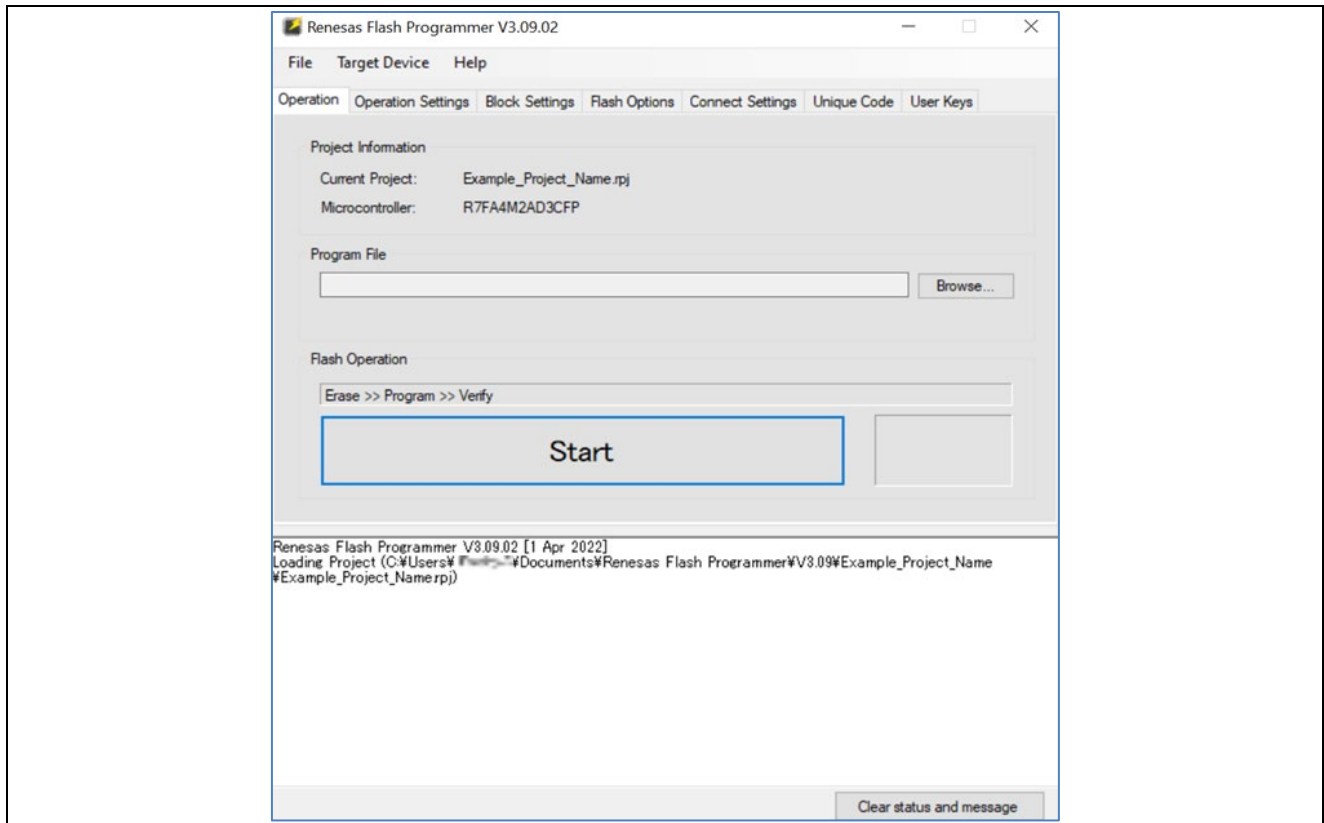

Figure 3. The Main Window of Renesas Flash Programmer After Creating a New Project
5. Verify the message **Operation Complete** is printed in the main window after clicking Connect. Under Program File, click Browse to choose to the program file that will be flashed onto the board (Figure 3). Using the file explorer window, navigate to the example project's **ra4m2_catm.hex** file and click Open.